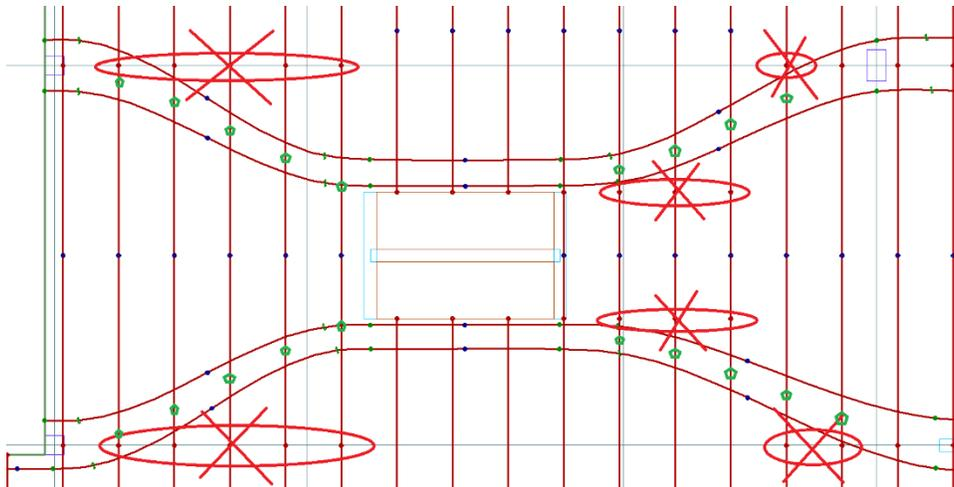

Figure 8-34
- The distributed tendon high points along gridline 3 and 4 should flow down with the banded tendons as illustrated in **FIGURE 8-34**.
- To move the control points to match **FIGURE 8-34**. **Left-click** on the tendon whose control point you want to move to select the tendon.